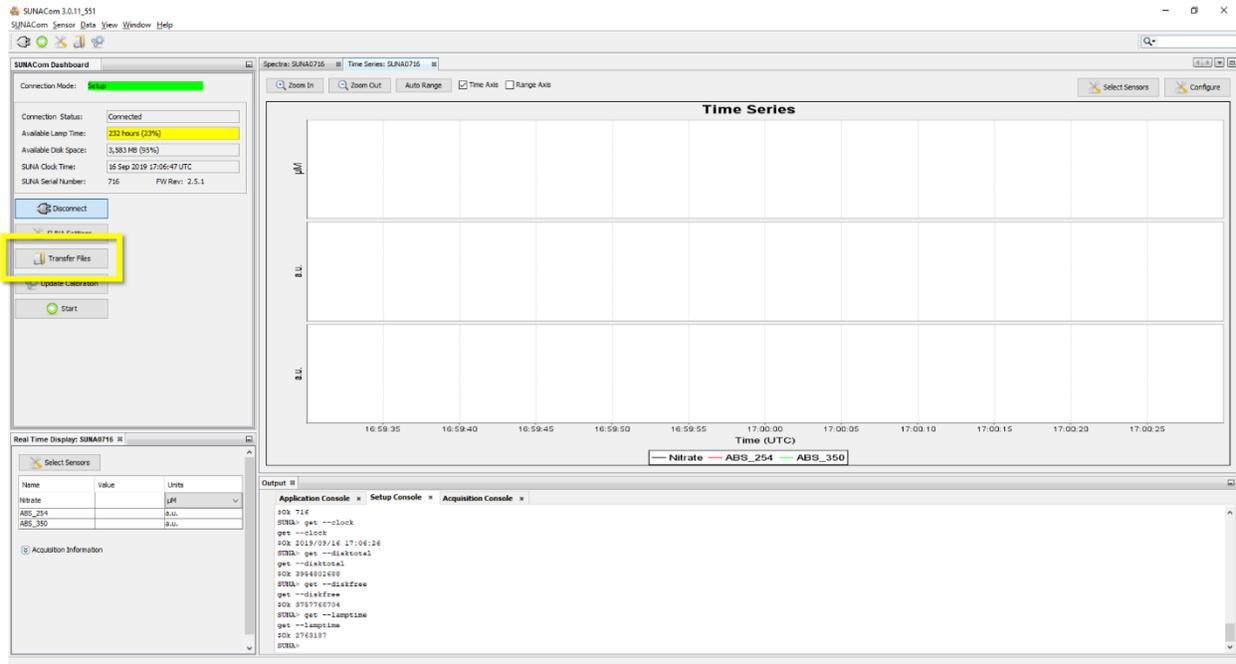

Figure 5. Open the UCI Software and Select Transfer Files
2. Open the UCI Software and Select **Transfer Files (Figure 5)**.